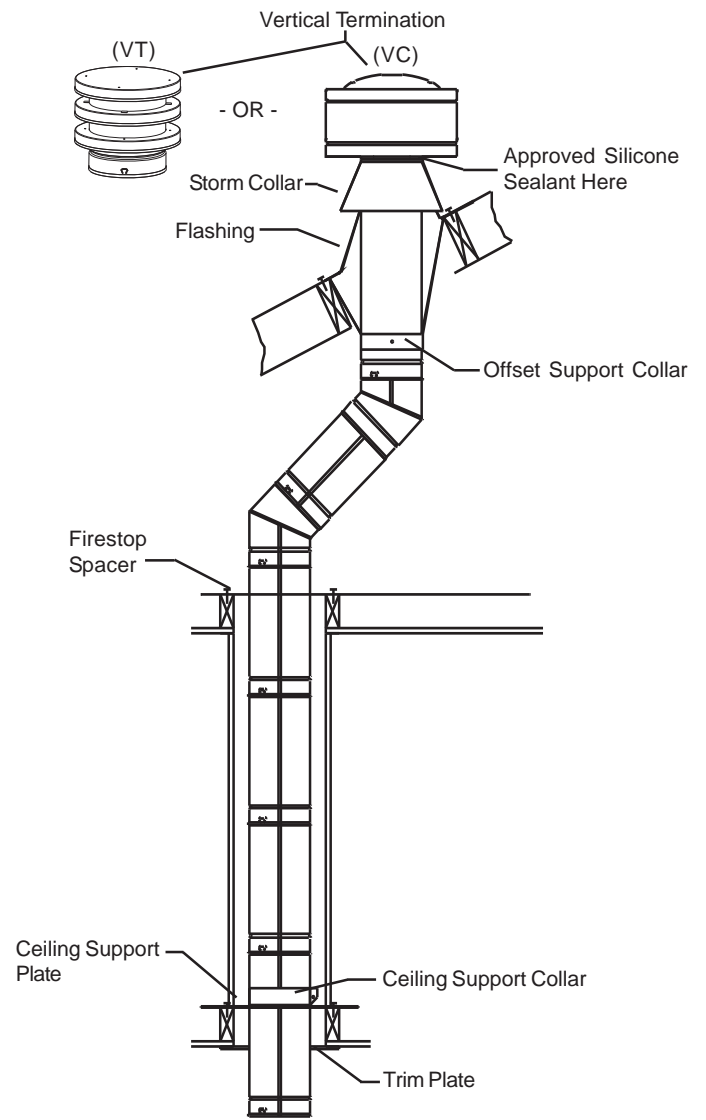
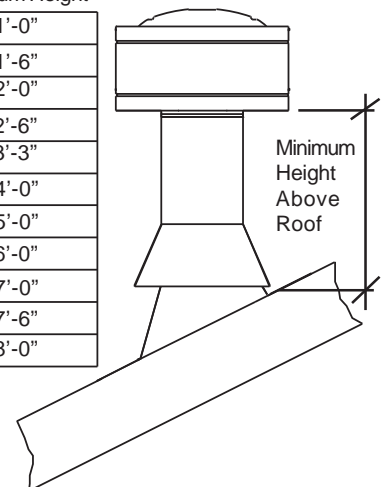

FIG. 13
FIG. 14
7) If a Wall Thimble is used, push the pipe (which is connected to the appliance) carefully through the Wall Thimble until the DIRECT-TEMP pipe becomes fully engaged with the Horizontal Termination. If no thimble is used, place the Trim Plate (TP) on the DIRECT-TEMP pipe. Carefully push the DIRECT-TEMP pipe through the wall until fully engaged with the Horizontal Termination. Secure the Trim Plate to the wall.
**VERTICAL INSTALLATION:** (See FIG. 13)
**NOTE:** Frame openings to the dimensions specified in the Framing Table for the Cathedral Ceiling Support Box (CCS), the Ceiling Support (CS) and wherever the Firestop Spacer (FS) is being used.
11) Add lengths of pipe and firestop as necessary until assembly extends to a point above the roof which complies with local code requirements for minimum termination height and with the appliance manufacturer's installation instructions. See FIG. 14.
15) Install the Vertical Termination (VC) by inserting it down into the top most section of pipe until it is fully seated. Depress lock tab to secure the cap to the pipe. **NOTE:** In high wind areas, it is recommended to screw Termination to the pipe with two #8x1/4" sheet metal screws. The screws should be approximately 3/4" from the bottom of the Vertical Termination's galvanized collar.